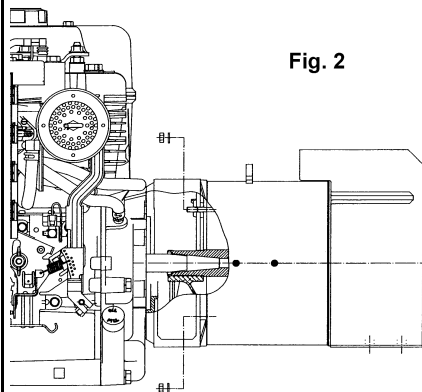

Fig. 2
-) lock the alternator into the cover by fixing the four M8 nuts onto the bolts, applying a tightening torque of $16 \pm 7\%$ Nm (figure 2)